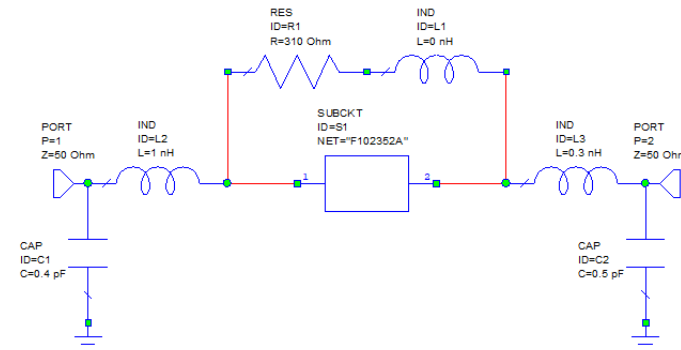

Fig. 6 Schematic of the amplifier with FET and a parallel feedback circuit.
- Fig. 6 provides an example of an amplifier with an FET transistor F102352A (2 V/25 mA) with only a resistive parallel feedback circuit ($L_1 = 0$).